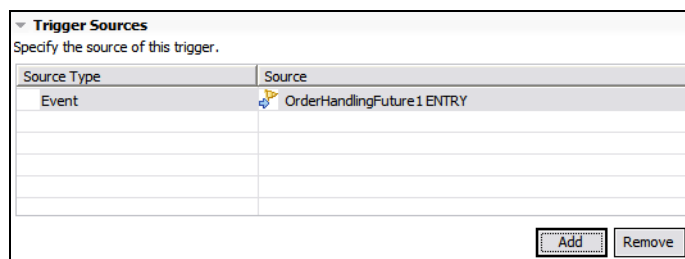

Figure 12-24 Trigger source created
- ▶ The source event is added to Trigger Sources (Figure 12-24).